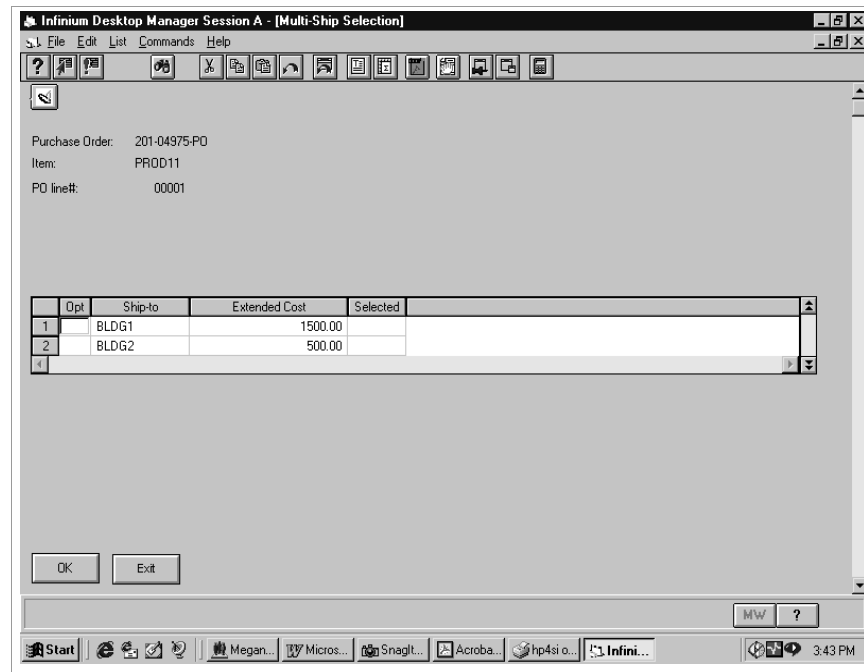

Figure 5-13: Multi-Ship Selection screen
The system displays the screen shown in Figure 5-13.
- 3 Exit or cancel to return to the Receipt Summary Selection screen as shown in Figure 5-13.